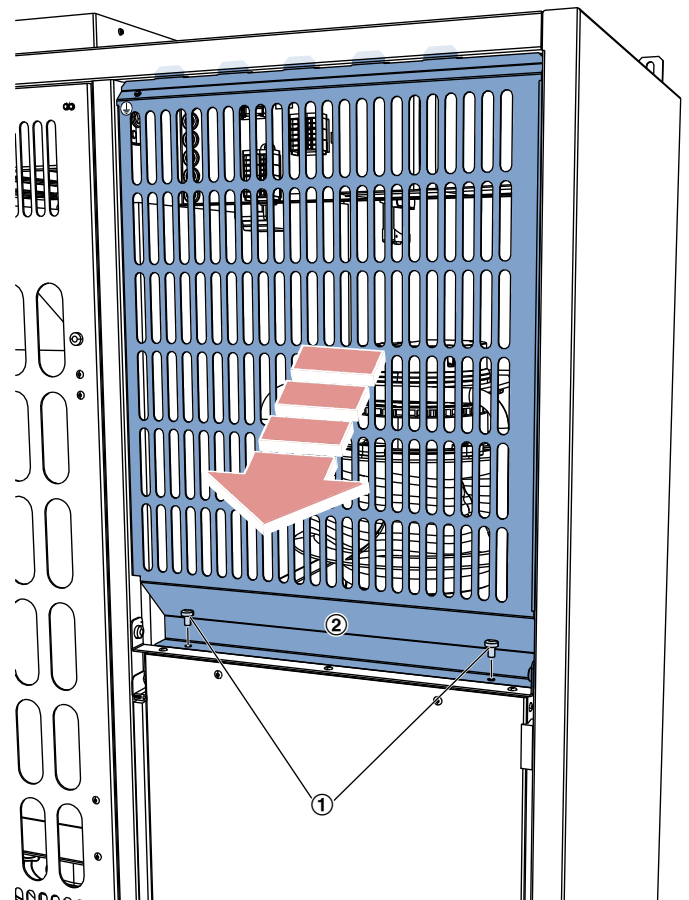

Fig. 11: Dismantling the cover grille
5. ▶ Loosen the screws (Fig. 11 /1) and carefully pull the grille (Fig. 11 /2) out forwards and downwards. Disconnect the earthing plug on the grille